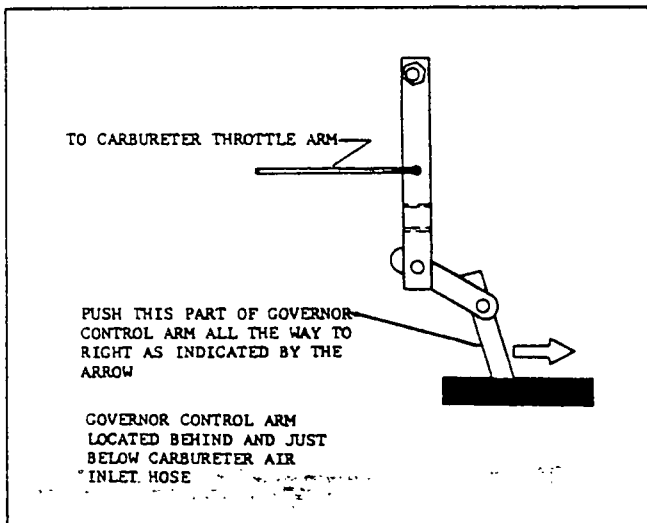

Figure 28
- 2.) As shown in figures 28 and 30, hold the governor control arm all the way to the right, bringing the engine speed to idle.